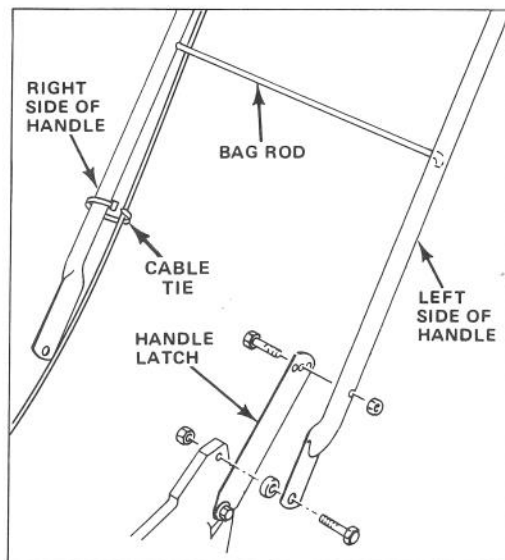

Figure 1
1. Insert bent end of bag rod into lower mounting hole in left side of handle. Spread handle apart until opposite end of rod can be inserted into lower mounting hole in right side of handle (Fig. 1).
2. Mount left side of handle to outside of mower housing with a 5/16-18 x 1-1/4" lg. capscREW, spacer and nylon insert locknut as shown in Fig. 1.
4. Secure handle latches to handle with (2) 5/16-18 x 1-1/4" lg. capscREWS and nylon insert locknuts (Fig. 1). Position locknuts on outside of handle.
5. Secure ground speed control cable to lower right side of handle with cable tie (Fig. 1).